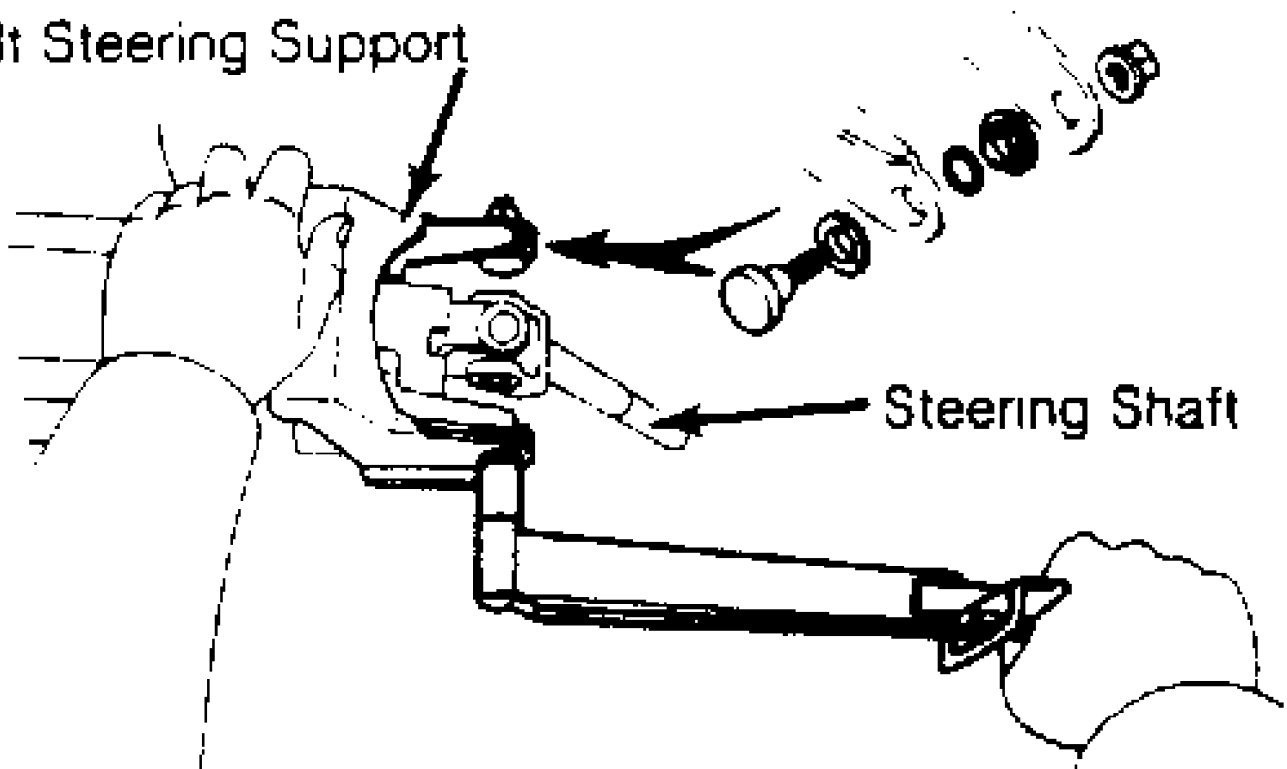

Fig. 5: Installing Tilt Steering Support
6) Install tilt steering support. See Fig. 5. Apply lithium grease to bushings and "O" rings. Install bushings to column. Install tilt steering support and pawl set bolts with bushings and "O" rings in place. Tighten nuts to 108 INCH lbs. (13 N.m).